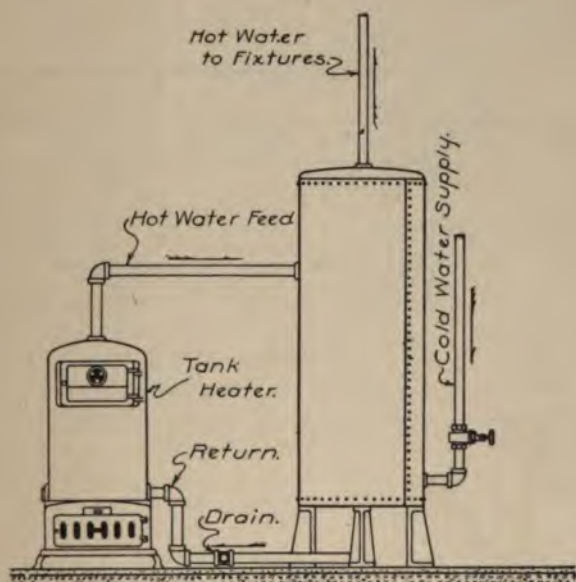

Fig. 78.—Domestic Hot Water Supply—Vertical Boiler.
A. Fig. 78 illustrates the usual method employed. The tank is placed on a stand or pedestal at such a height that the bottom of it is above the return connection of the tank heater. The flow from the heater is connected into the side of the tank about one-third distant from the bottom. The cold water supply is connected to the return pipe, which is at the bottom of the tank, and the hot water supply to the various fixtures is taken from the top of the tank.